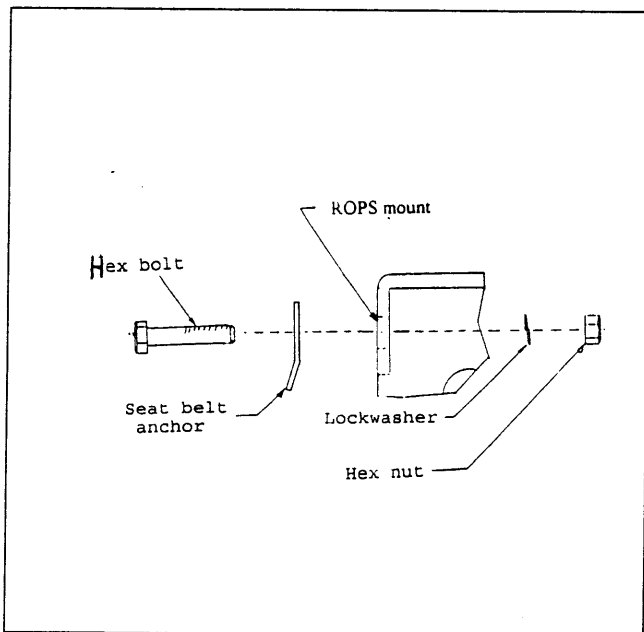

Figure 6
15. Locate the 7/16"dia. hole in the left, rear ROPS mount support. Take one of the seat belt (6) anchors and position it against the inside of the support as shown in Figure 6. Bolt the anchor to the support using the seat belt hardware provided.